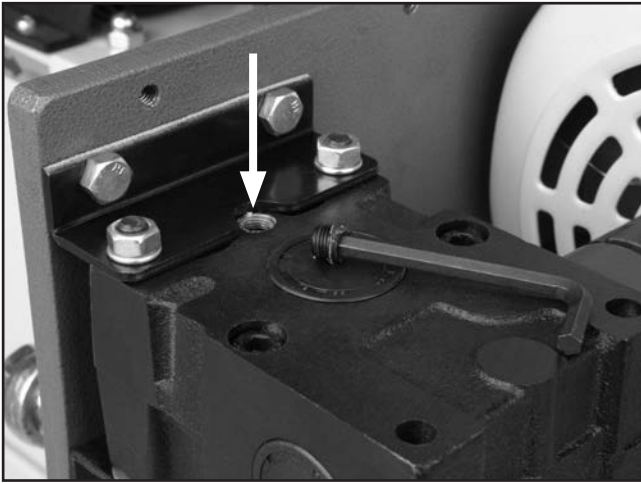

Figure 29. Oil fill hole and screw.
4. Remove the oil fill plug on top of the gearbox, as shown in **Figure 29** and fill with SAE 80W gear oil until the level is $\frac{1}{2}$ " from the top.